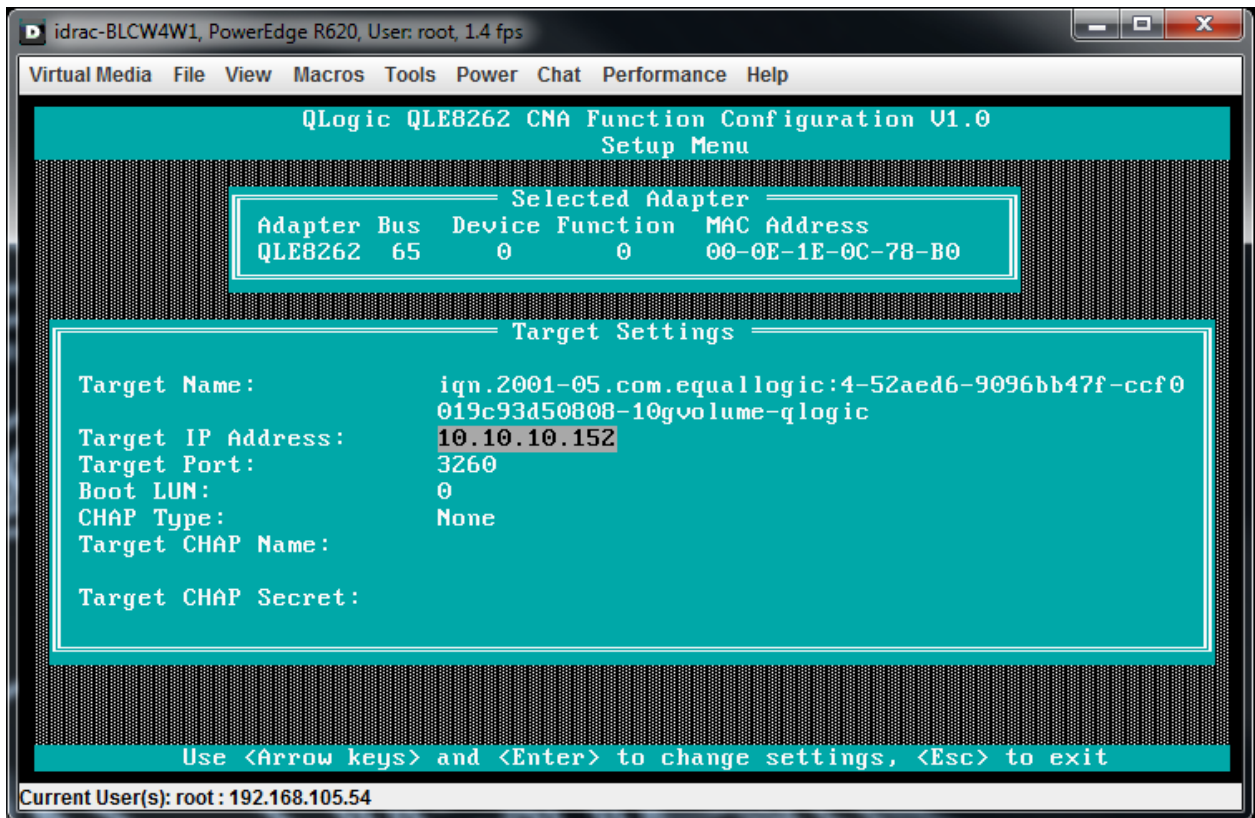

Figure 13 Target Settings for Qlogic network adapter
6. Exit the **Initiator Settings** menu and enter the **Target Settings** menu. Enter the Target iqn Name, Target IP, Target Port (3260) as shown in Figure 13.